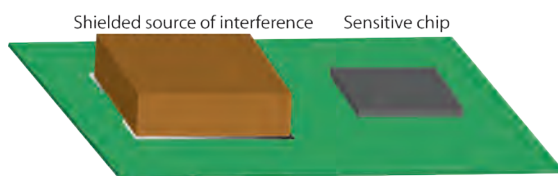

Figure 15.1: Shielding at the source
**Level I** The component on the PCB is shielded by a can. Shielding at the source. (Fig. 15.1)